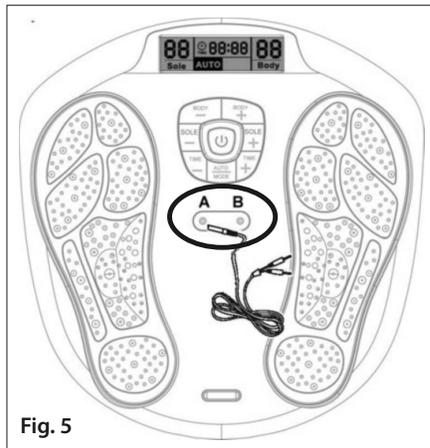

Fig. 5
1. Plug in the 2 cables into the cable jack on the unit (see Fig. 5).